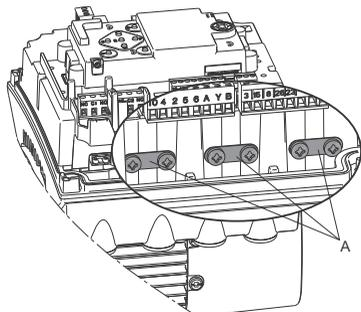

Fig. 77 Connecting the cable screens to earth
7. Connect the cable screens of the bus cables to earth via one of the earth clamps (fig. 77, A).